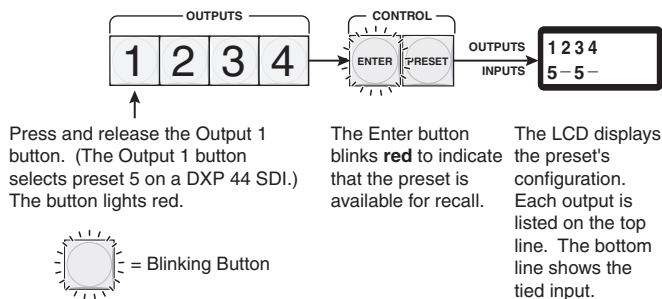

Figure 3-22 — Selecting the preset
2. Press and release the Output 1 button (figure 3-22).